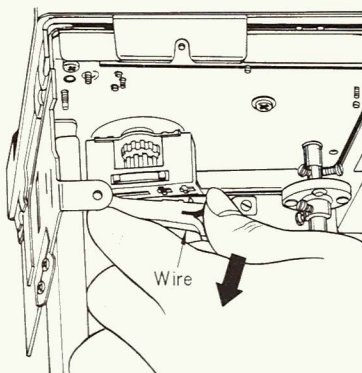

Fig. 18
3. Remove the switch wire in the direction of arrow, as shown in fig. 18.